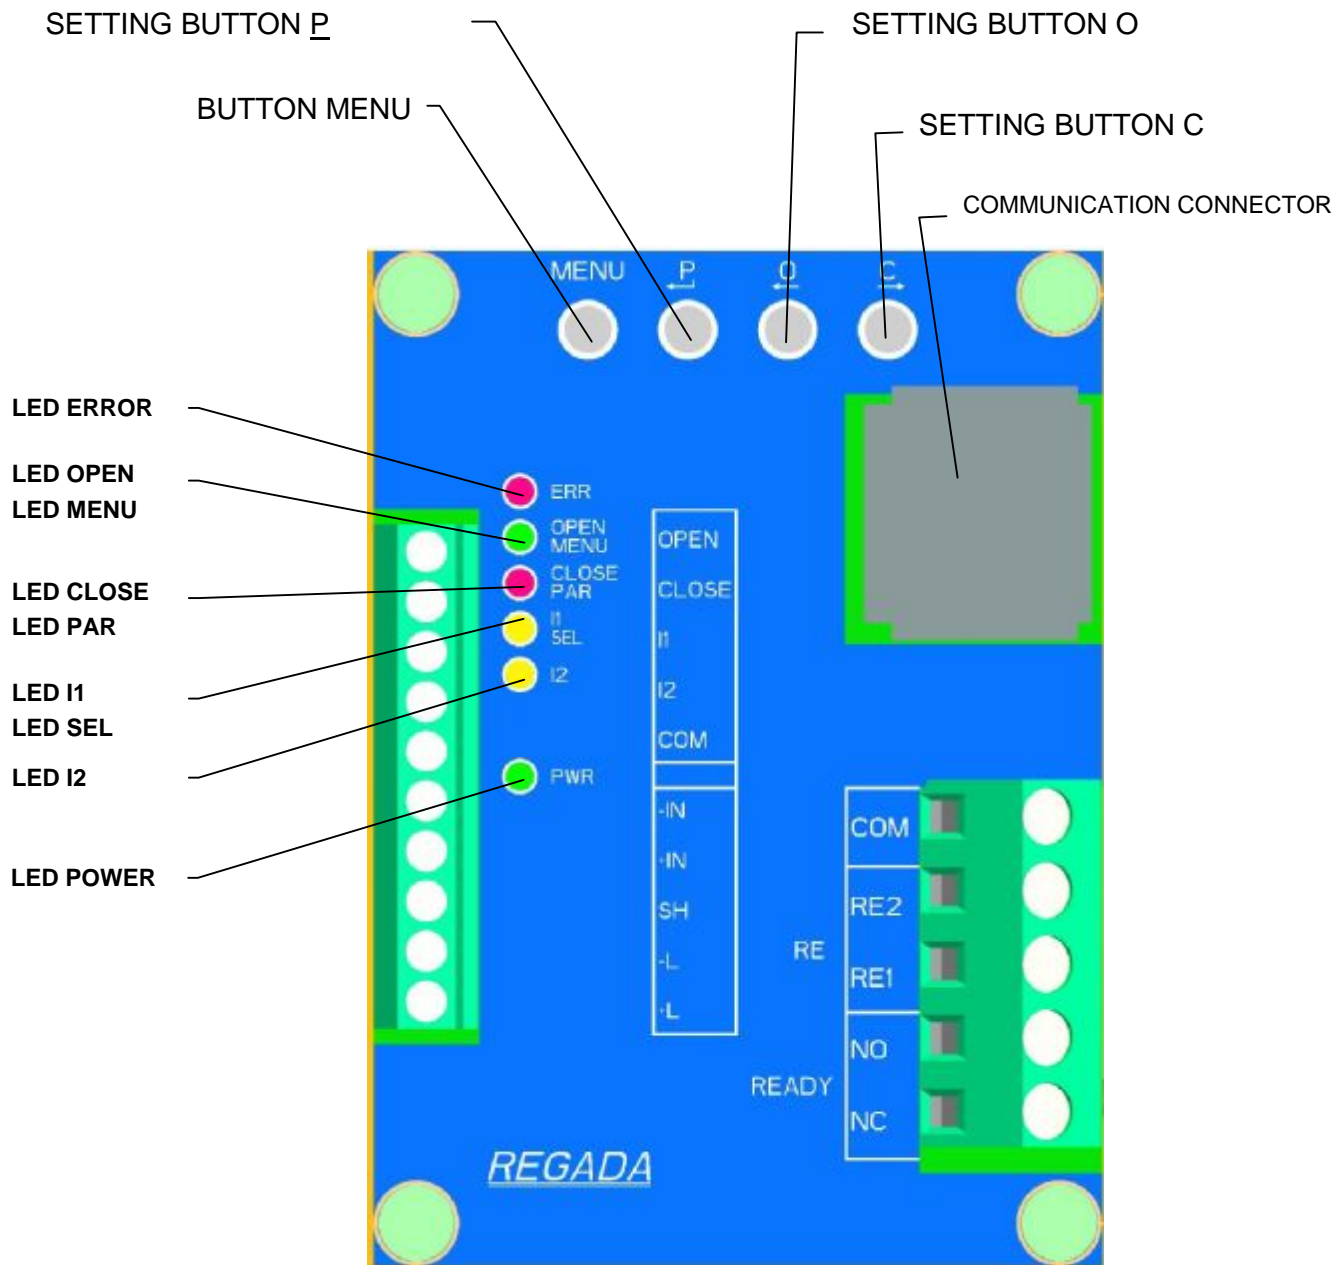

Fig. 7
Adjustment is made onto mechanical and electrical connected actuator. This chapter describes how to set up the EA to parameter values within a range applicable for the software. Location of adjustable parts of control board is on **Fig. 7**.
- by operating the control unit buttons (see Fig. 7);
- six signal lamps according (LED diode) to **Fig. 7**